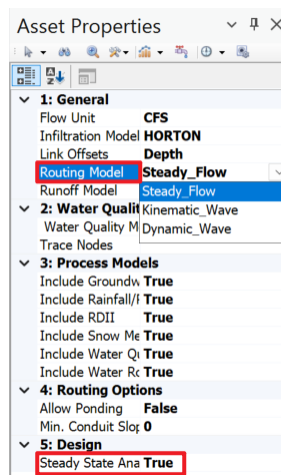

Figure 7: Selecting the Steady_Flow routing model
1. To run a steady state simulation in AquaTwin Sewer, the user will need to go to *Digital Twin > Run Options > General > Routing model* and select *Steady_Flow* from the dropdown menu (**Figure 7**).
2. The user will also need to set the *Steady State Analysis* to True (**Figure 7**), which ignores the patterns and the inflow hydrographs at junctions. Only the constant direct inflow at the junction nodes is turned on for the steady state analysis. The peaking factors are **applied only** if this *Steady State Analysis* option is turned on.